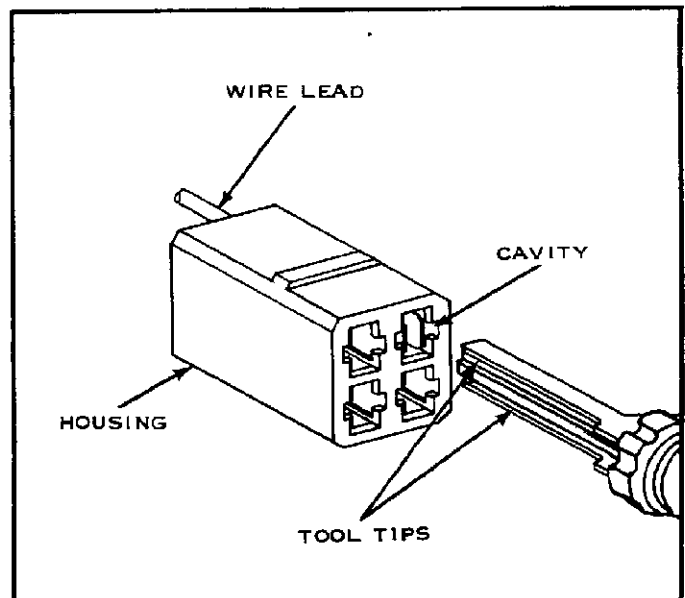

FIG. 4
- (a) Insert Tool Tips into Offsets in Cavity as shown in Figure 4.